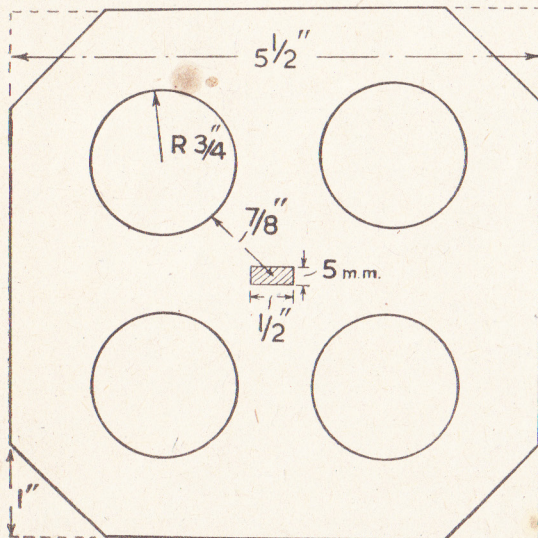

Fig. 1—Plan of the top
First of all cover the square piece with gummed white paper, allow this to dry, and then trim the paper to the edges of the Perspex. Now set out the plan of the top according to Fig. 1. All the shaded areas have to be removed with your fretsaw. The corners are easy. A fretsaw is also used to remove the circular pieces where the eggs fit. Smooth down the inside of each circular cut with a half-round file, and finish off with fine glasspaper.
Cut a baseboard 7ins. by 5ins. from ½in. wood, and glue and screw the solenoid into position, as in Fig. 1. Join the wires to the terminals (T) as shown, and hang the tubes so that they are about a ¼in. from the ends of the plunger. When the chimes are working these tubes will have to be adjusted a
The complete wiring is shown in Fig. 1. (R) is a bell-push and (P) the source of power. This can be either two 4-volt batteries joined in series, or